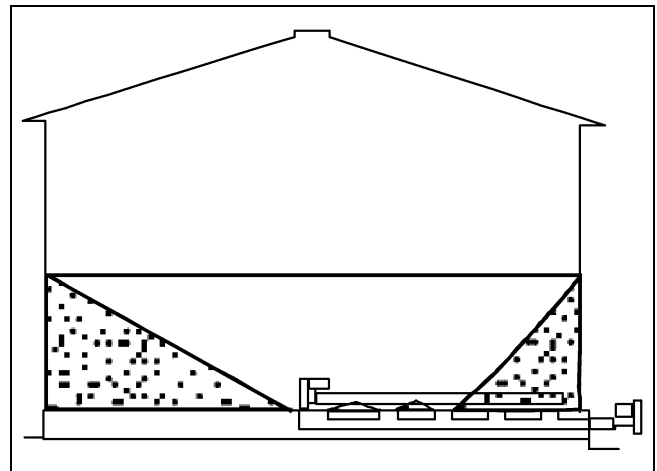

Figure 5E
8. When the grain flow stops from the centerwell and inside intermediate wells, insert the outside intermediate well bolt and nut through the outside intermediate well control rod and the outside intermediate well adapter. The remaining grain should look like Figure 5E.